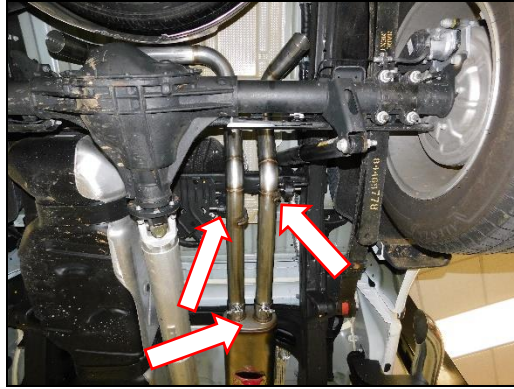

Figure 6
3. Slide on the (x2) supplied band clamps and install the right and left side over the axle pipes in to the back of the muffler. Slide (x2) hangers in to the OE rubber isolators (**Figure 6**).